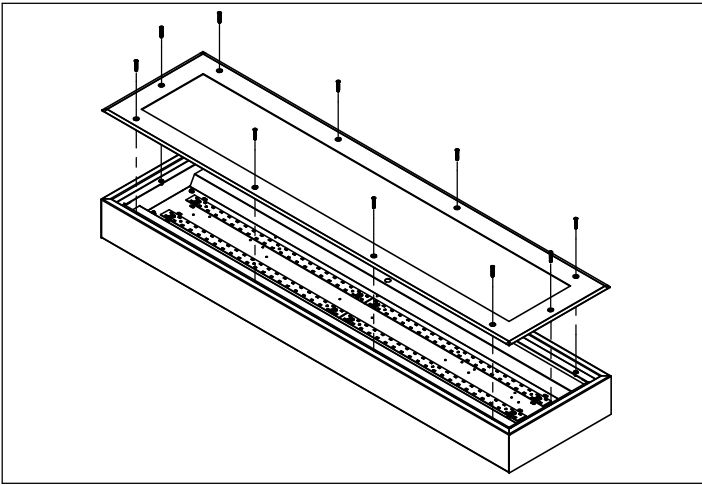

Figure 1
1. Remove screws from Frame to open fixture (Fig. 1)